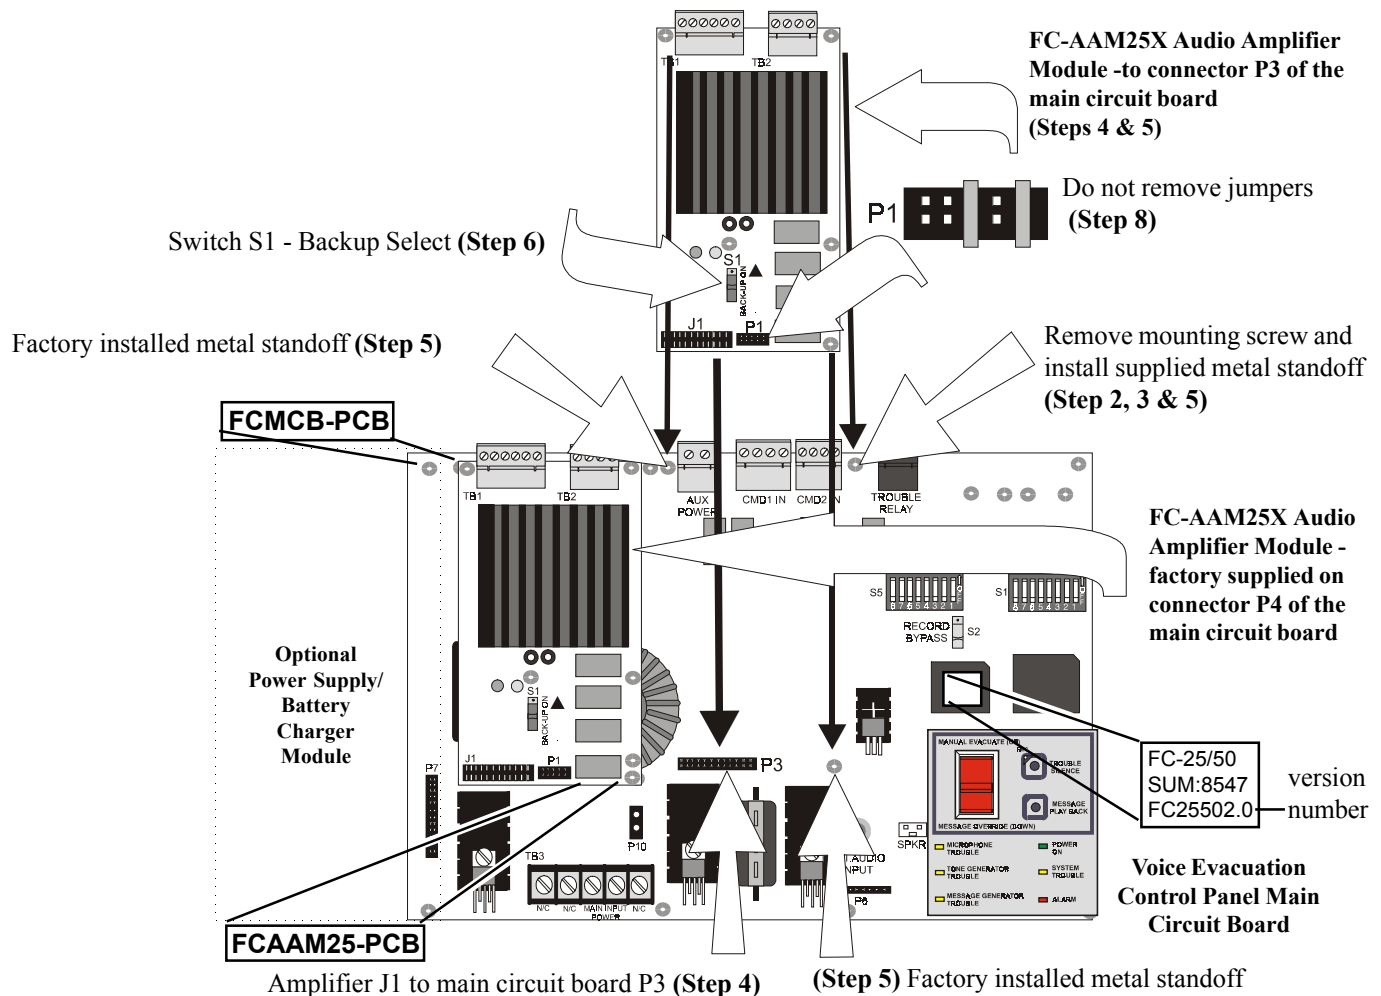

Figure 1: Main Circuit Board
FC-AAM25X Audio Amplifier Module installation on main circuit board (see Figure 1)
- (1) Position switch S1 in the 'down' position for normal operation. This adds an additional 25 watts increasing total system output to 50 watts.
- (2) Position switch S1 in the 'up' or 'Backup On' position to configure the amplifier as a backup in the event the primary amplifier fails to operate.
8. Make certain the factory installed jumpers are in place on connector P1 of the Audio Amplifier Module. Refer to Figure 1.